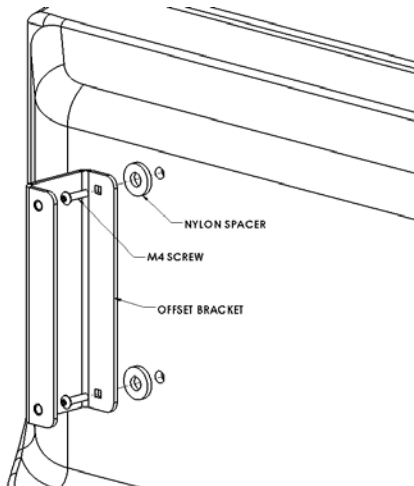
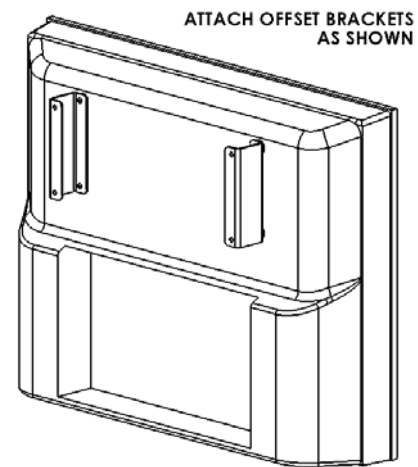

Figure 4
Figure 5
- Place Offset Bracket on mounting holes, aligning square hole pattern on brackets with pattern on back of display (see Figure 4 & Figure 5).